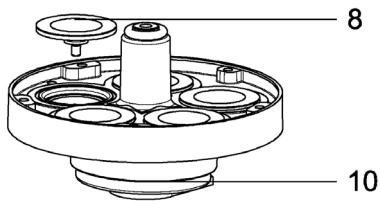

Fig. 6
2. As shown in Fig. 6, place diaphragm receiver (9) on a suitable surface.